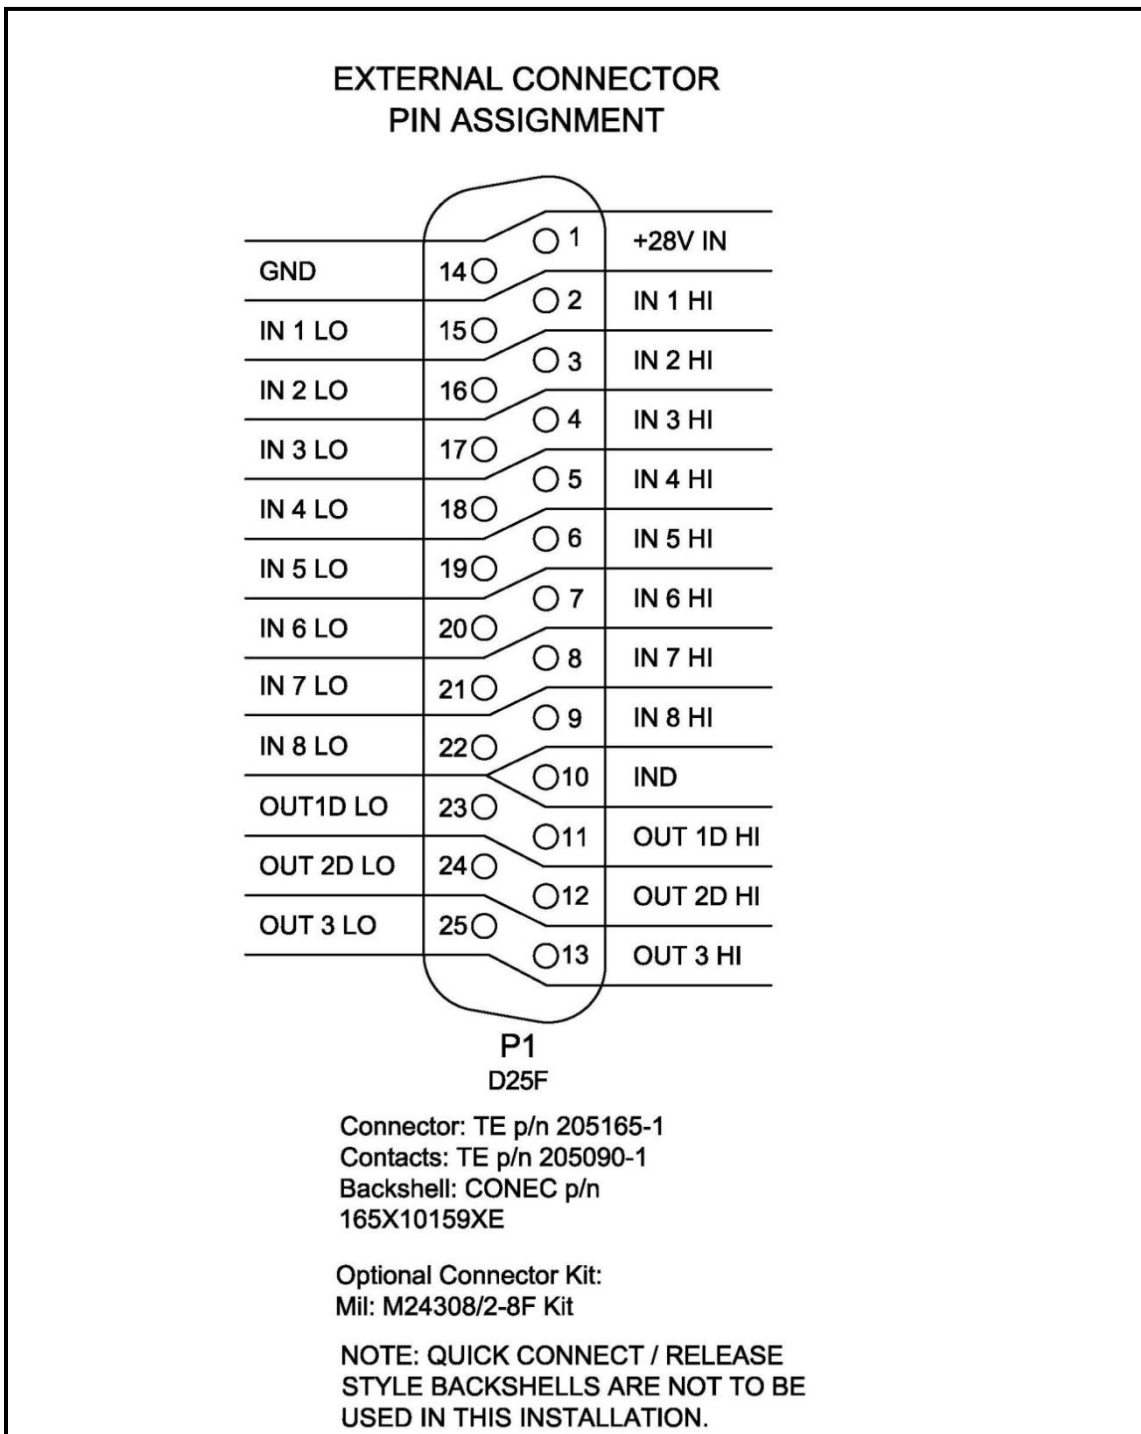
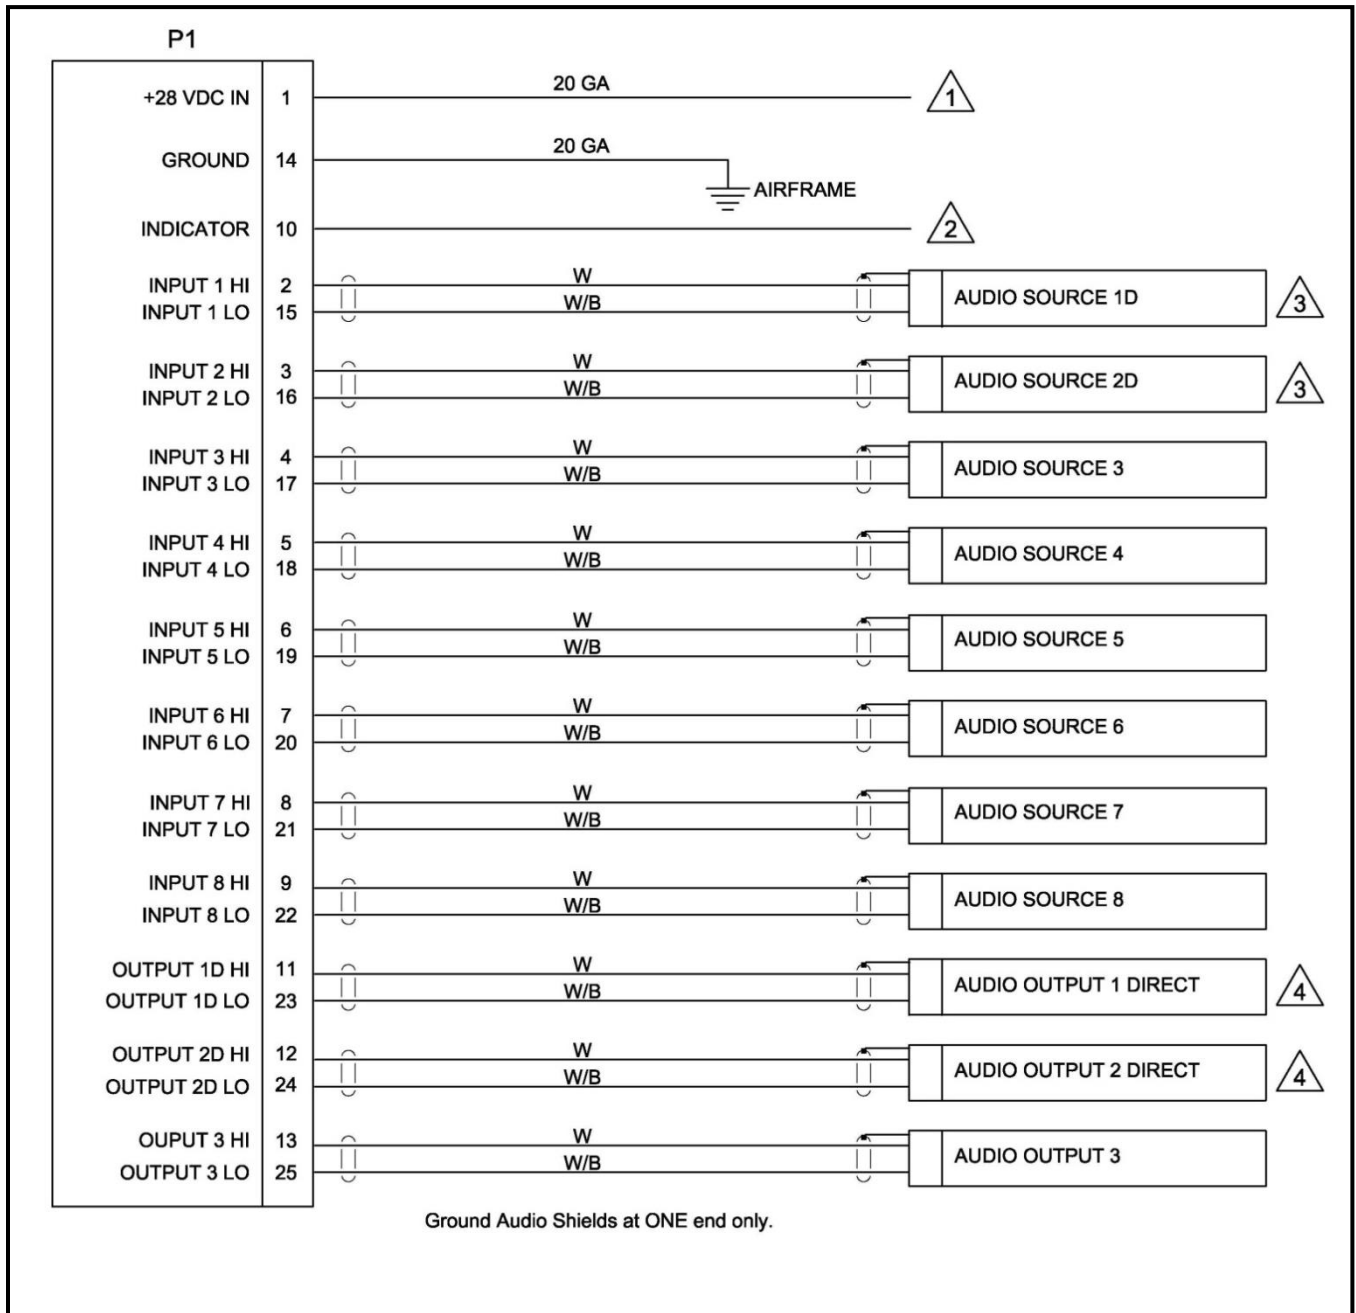

Figure 10: G13120 Audio Mixer Wiring
Figure 11: G13120 Audio Mixer Wiring
- a. Refer to Figure 10 and Figure 11 for cable harness fabrication instructions.
- a. Notes listed below apply to Figure 10 and Figure 11.